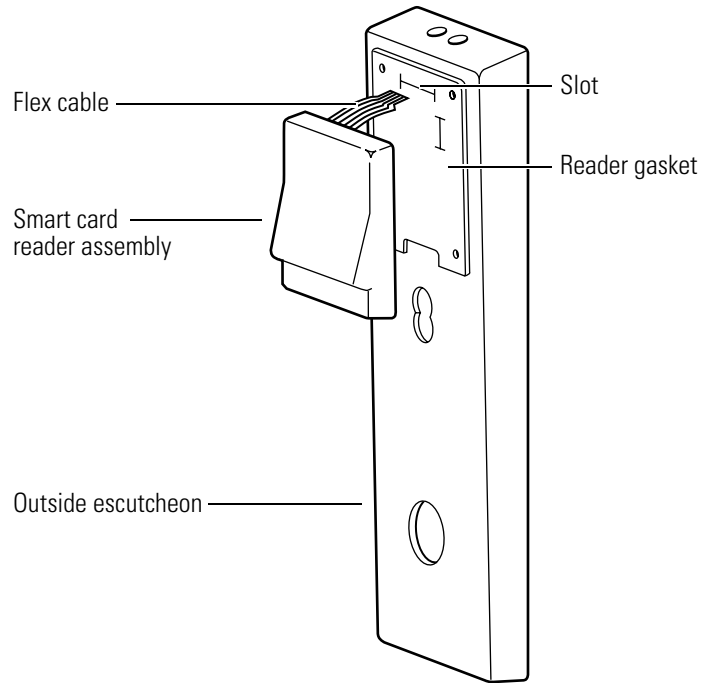

Figure 9.19 Positioning the smart card reader assembly
1. Orient the reader assembly and insert the flex cable through the slot in the outside escutcheon. See Figure 9.19.